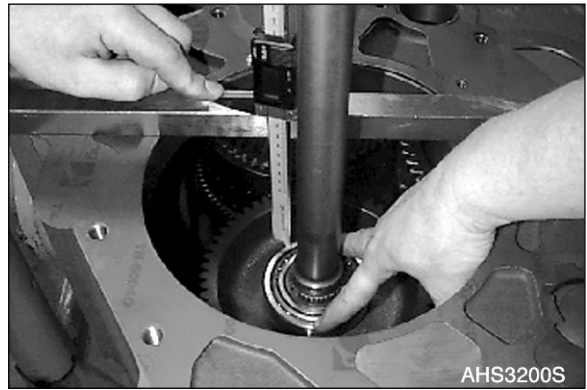

Figure 372
9. Adjust Axial Play of the Input Shaft Bearing = 0.0 - 0.05 mm (0.0000 - 0.0020 in) (Figure 372 - Figure 374).